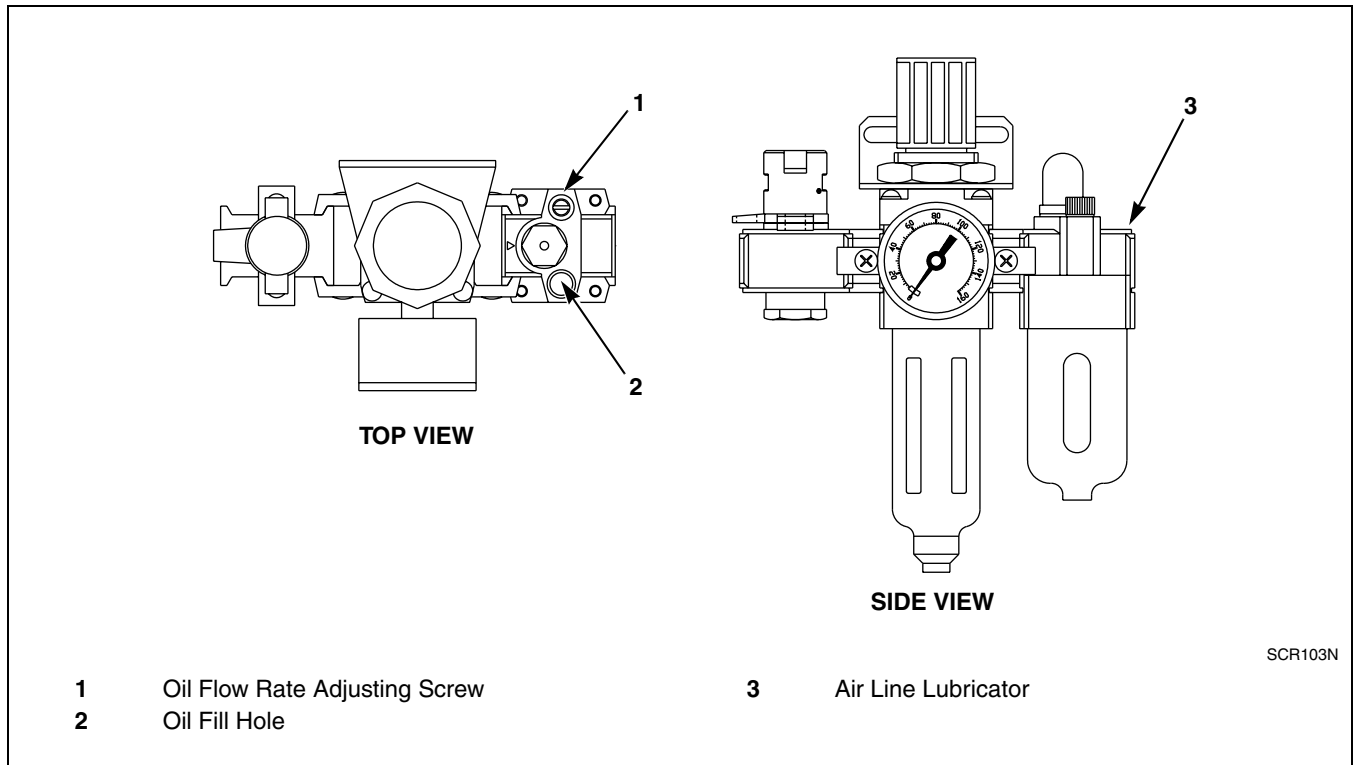

Figure 23
2. To increase flow rate, use a screwdriver to turn the adjusting screw no more than a 1/8 turn in the counterclockwise direction. Likewise, turn clockwise to decrease oil flow. Refer to item 1, *Figure 23*.
**IMPORTANT:** To avoid o-ring leaks at the top of the bowl, do not remove bowl. Fill through the oil fill hole. Refer to item 2, *Figure 23*.